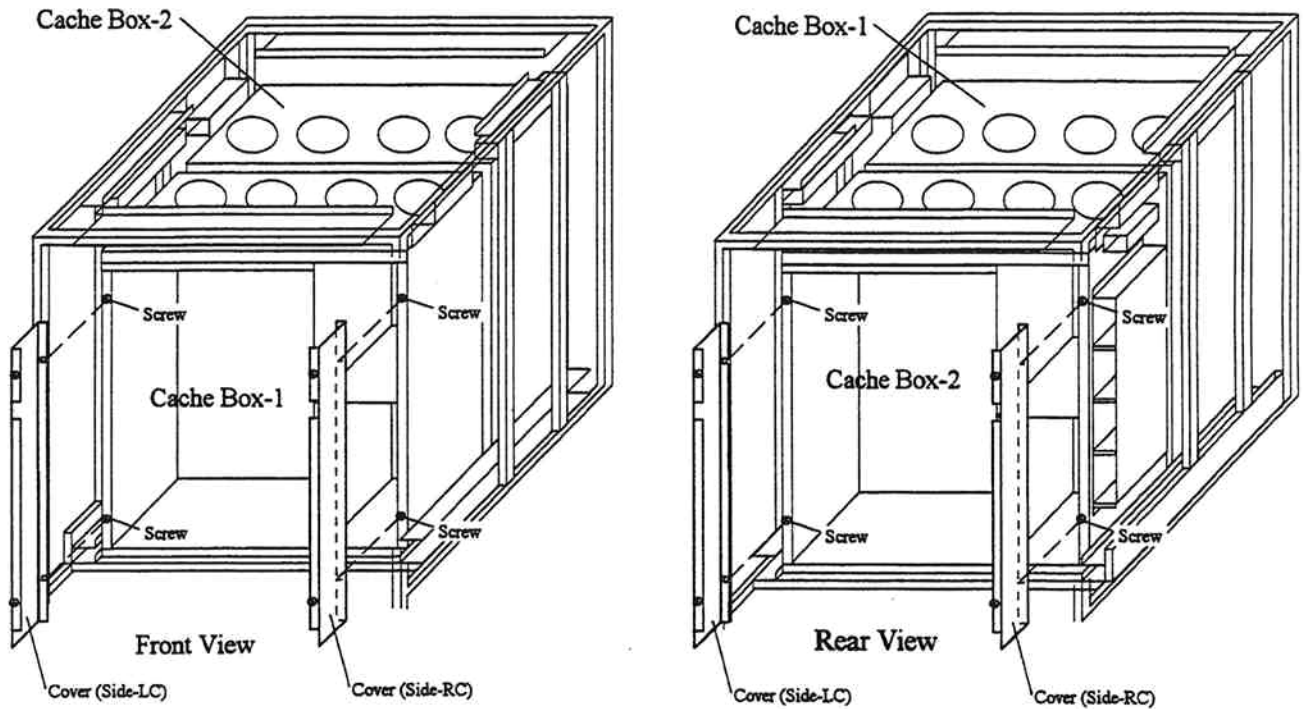

Fig. 3.4.1.7.2-1 Removal of the Covers
- c. While referring to Fig. 3.4.1.7.2-2 and Table 3.4.1.7.2-1, check the Shut Down LED on the Cache PCB. See 'Connection of Shut Down Jumper(INST03-2600)' if the Shut Down LED is not on. Insert the Shut Down Jumper because the Shut Down LED on the CPS PCB does not light.